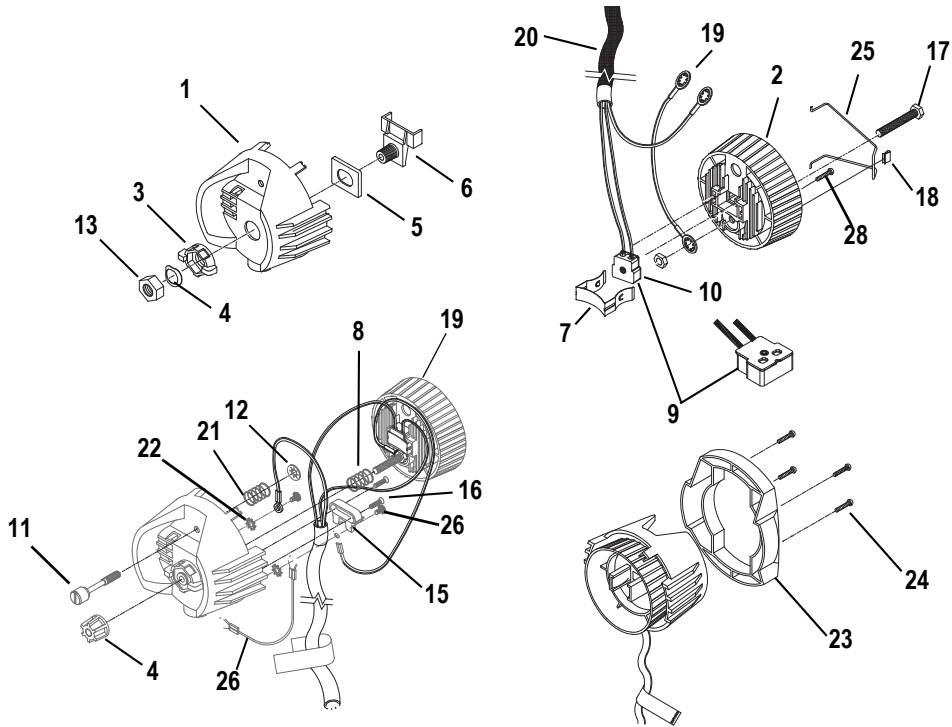

Figure 2
Step 14: Using the four screws (24), attach the handle (23) to the lamp socket assembly. See Figure 2.